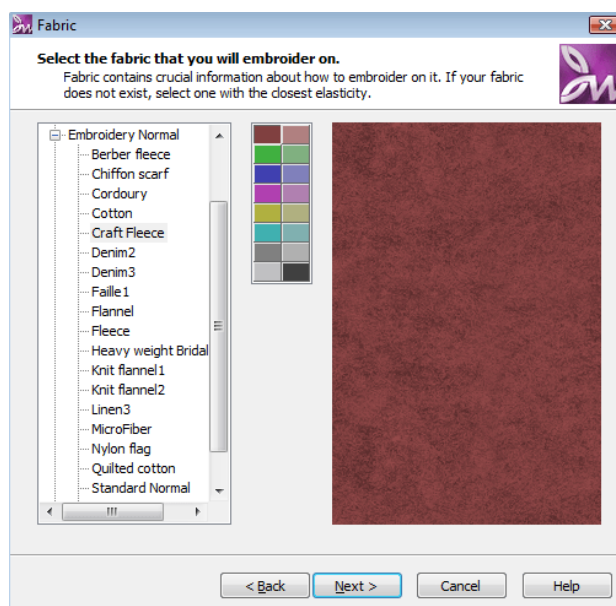

Figure 2.15: Select fabric dialog
22. The **Fabric** dialog will appear (Figure 2.15). Expand the **Embroidery Normal** category from the list by clicking on the + icon next to it.